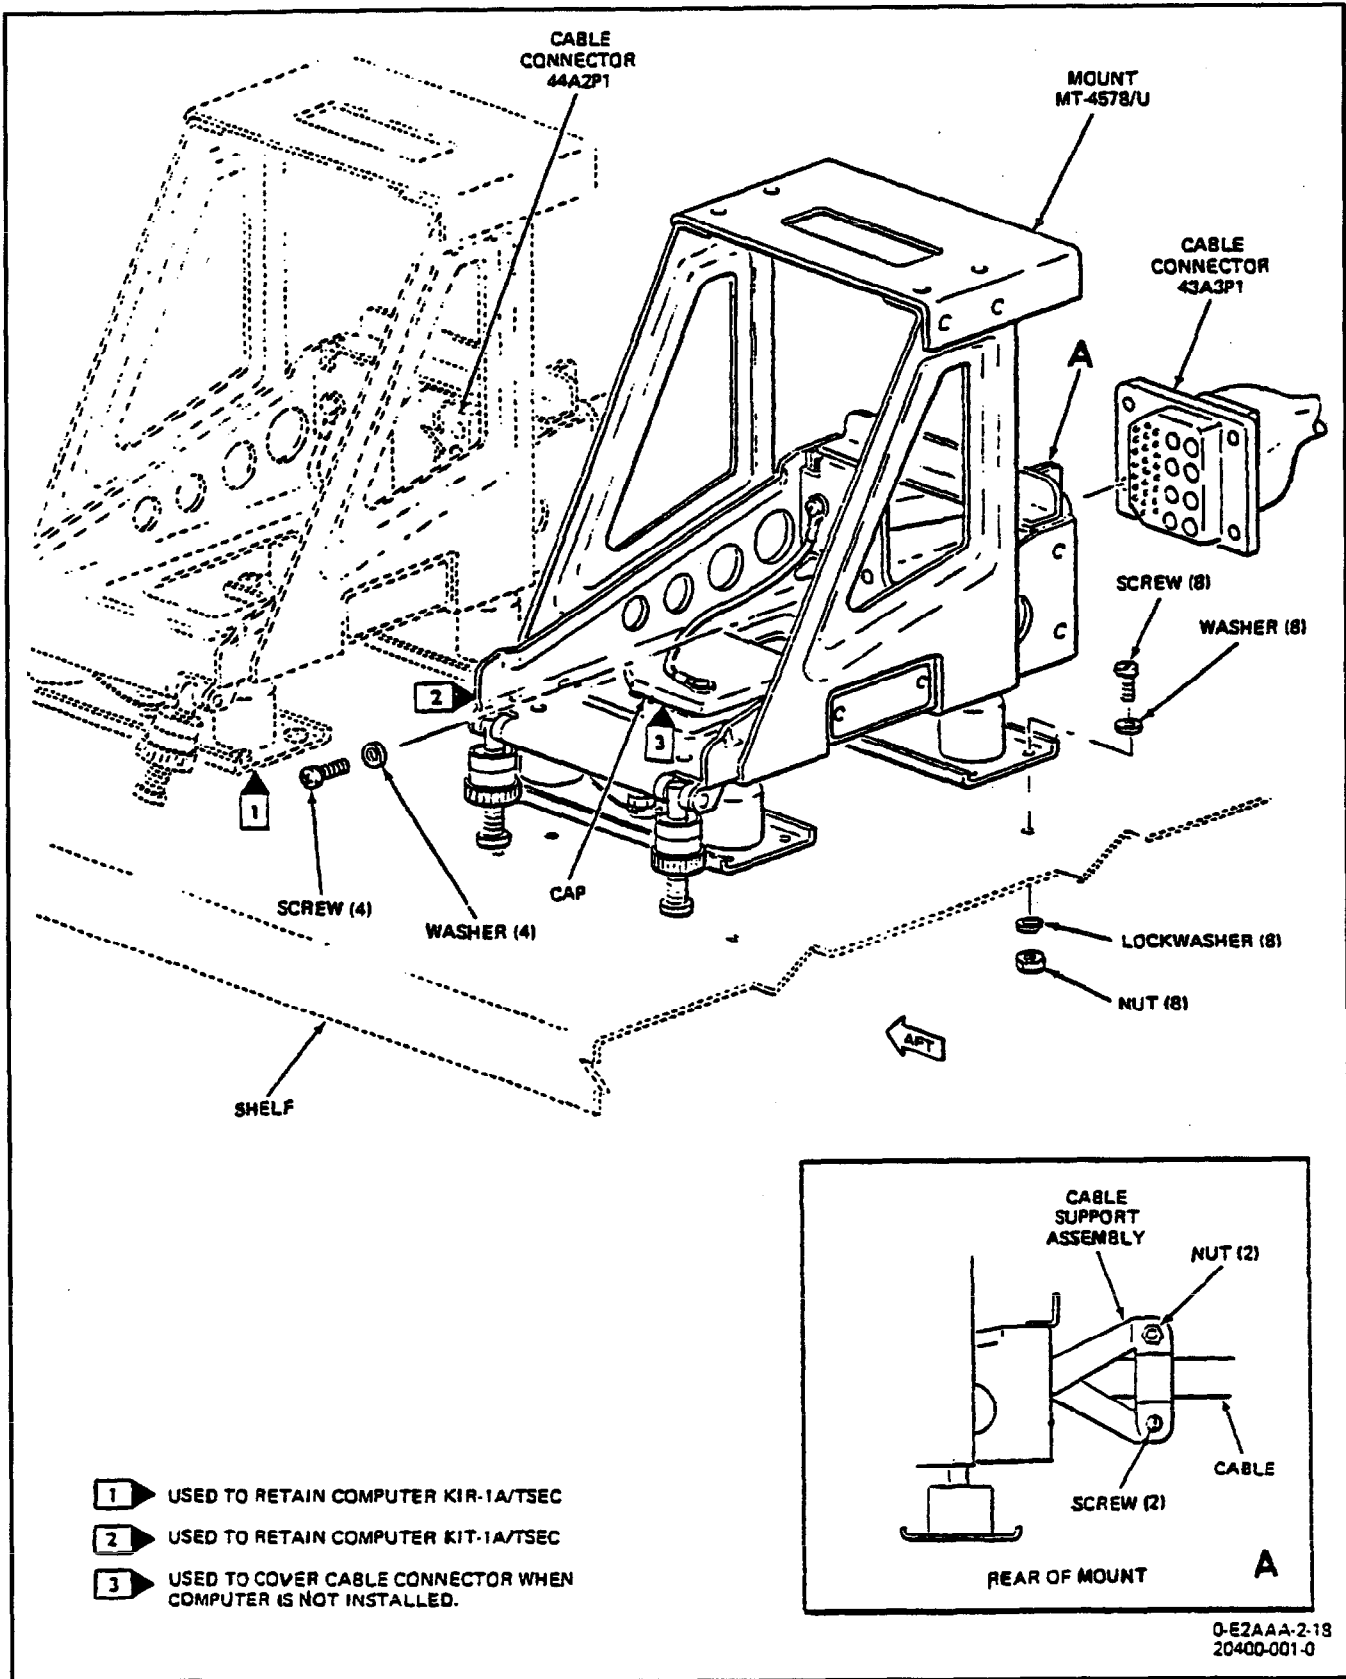

Figure 1. Removal and Installation of Mount MT-4578/U
3. REMOVAL. (See figure 1.)
- d. Remove two screws and two nuts from cable support assembly. (See figure 1, view A.)
4. **INSTALLATION.** (See figure 1.)